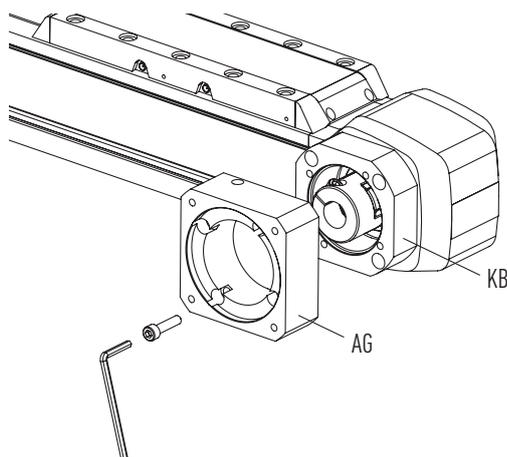

Fig. 6.58 Mounting the gear adapter plate AG – HM060B, HM080B, HM120B
- ▶ Attach the gear adapter plate AG so that it lies flat (see Fig. 6.58). In doing so, note the position of the hole for the clamping hub's clamping bolt.